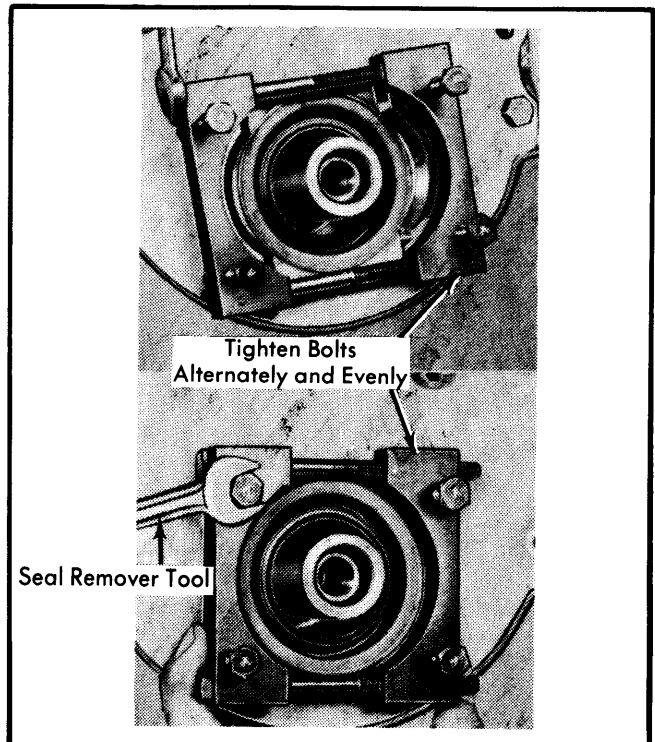

Fig. 15 Removing Front Cover Oil Seal
2) Remove vibration damper bolt. Pull off damper with a suitable puller. Attach a suitable seal remover tool (T70P-6B070-B) to lip of front seal. Tighten puller bolts and remove seal (see Fig. 15).